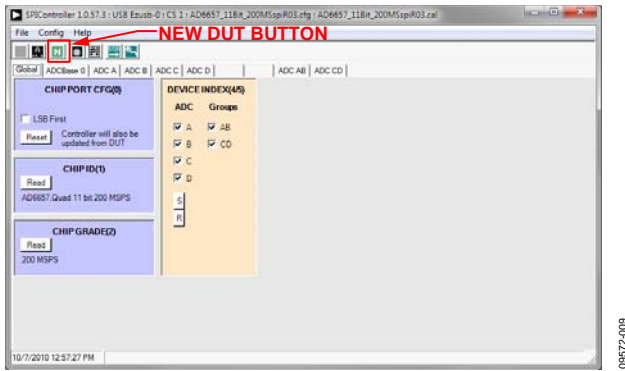

Figure 9. SPIController, New DUT Button
- Click the **New DUT** button in the **SPIController** window (see Figure 9).